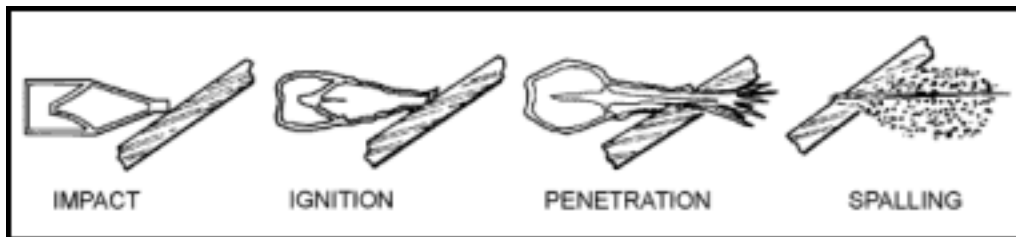

Figure 3-3. Effects of M136 AT4 warhead.
a. **Description.** The M136 AT4's warhead has excellent penetration ability and lethal after-armor effects. The extremely destructive, 440 gram shaped-charge explosive penetrates more than 14 inches (35.6 cm) of armor. Warhead effects are shown in Figure 3-3.